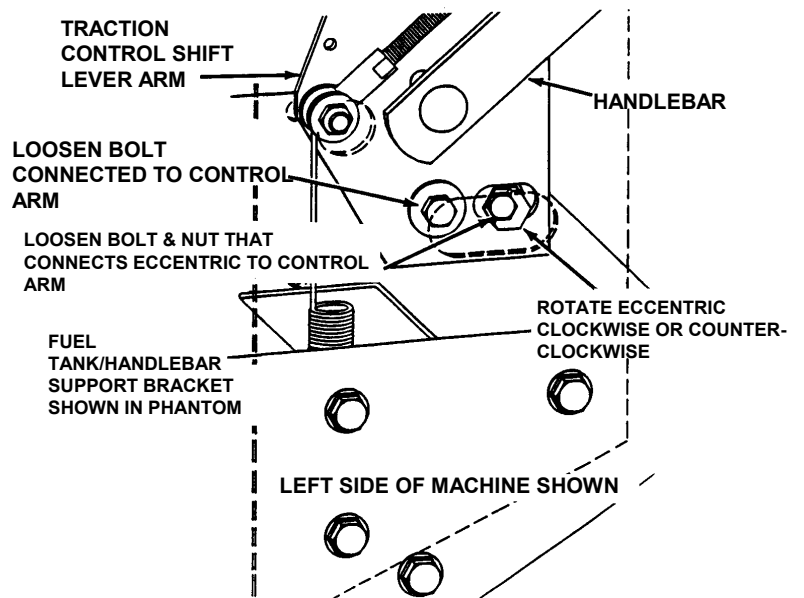

FIGURE 3.11
**STEP 10:** Wheel rotation will be stopped by adjusting the eccentric on the pump arms on the right and left pumps. Turning the eccentric slightly clockwise or counter-clockwise will synchronize the pump and traction controls for Neutral. See Figure 3.11. To turn the eccentric, first loosen the bolt in the pump control arm and the nut and bolt fastening the eccentric to the pump control arm. With traction controls latched in Neutral, start engine. Turn eccentric slightly clockwise or counter-clockwise until wheels stop rotating. Tighten control arm bolts and eccentric nut and bolts. Check for wheel rotation. Repeat eccentric adjustment if needed.